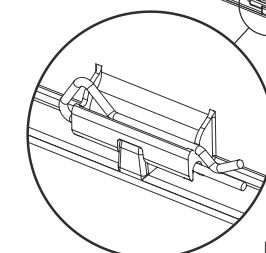

Figure 4
2. Slide the **EZClip™** pins into place as shown in Figure 4. Rotate the **EZClip™** pins upward to lock into position on top of the mounting tabs.